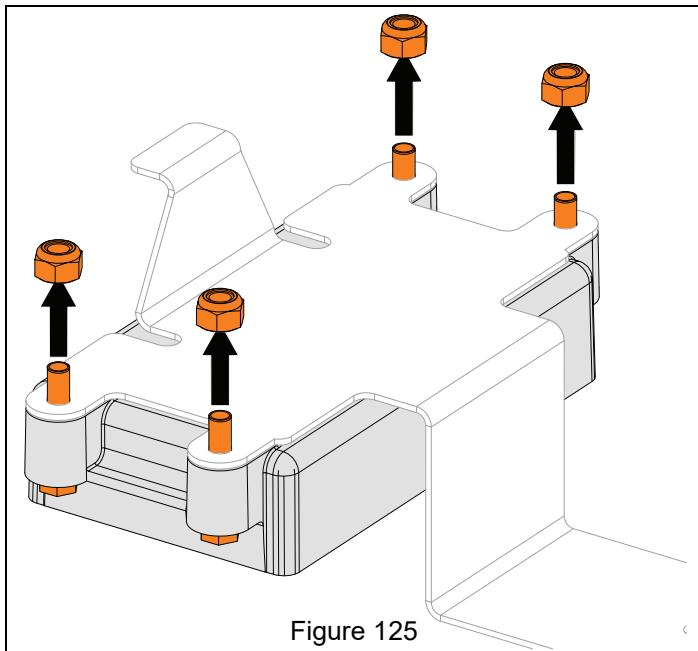

Figure 125
5. Remove hardware retaining ECU to bracket and remove ECU. See Figure 125.
1. Secure ECU to bracket with original hardware. See Figure 125.